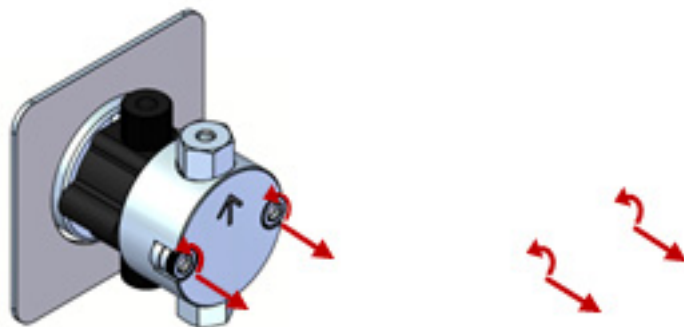

Figure 5-9 Removing the fasteners
8. Remove the two pump head fasteners. Use the supplied 3/16" hex wrench (Figure 5-9).